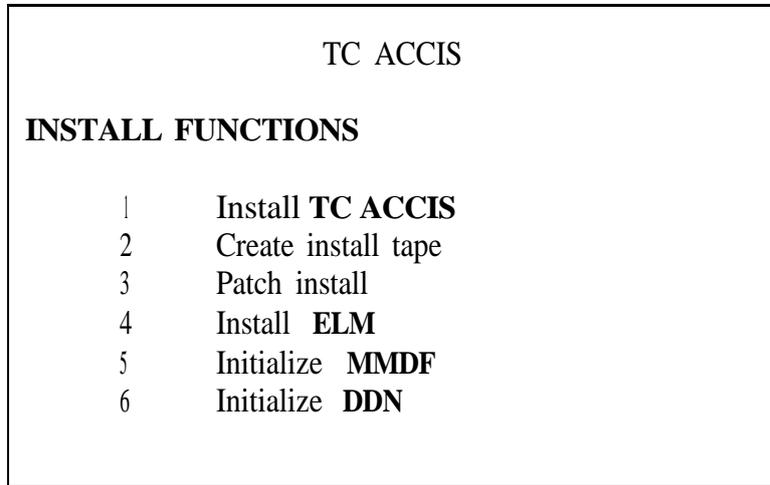

Figure 6-4. Install Functions
6.1.3 Install Functions Menu. The install functions are used to install all new releases of TC ACCIS on the system. These functions are used by the Customer Support system administrators to do the initial installation of TC ACCIS on the COMPAQ 4500. Subsequently, these functions can be used by system administrators at TC ACCIS sites to install all new releases of TC ACCIS. The install functions are reached by pressing 2 from the Install Menu. This brings up the Install Functions Menu (see Figure 6-4). The following five subsections explain how to install TC ACCIS, create an install tape, and do a patch install.
6. From the Install menu press 2 to get the Install Functions menu (see Figure 6-4).